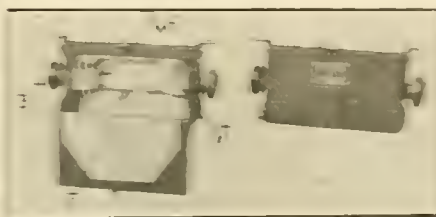

FIG. 2
A.—With this arrangement the trolley used in the trolley-box can be of much lower capacity than that of the current taken by the locomotive, the current drawn through one trolley-box when that particular set of trolleys has the only set of trolleys on the third rail. For instance, assume that the maximum current taken by the locomotive is 1,000 amperes. Under the condition of one set of trolleys only touching the third rail, the capacity of the trolley would have to be of excess of 1,000 amperes and of sufficient capacity to handle the current for the period of time which the locomotive might require to start up a heavy train and until the second set of trolleys on the same side comes in contact with the third rail. By connecting in the trolley-boxes on the opposite side of the locomotive from the set of trolleys in contact with the rail, the current drawn by the locomotive is divided among the trolley-boxes and so that half of these have a parallel handling the current, then 500 amperes would be the amount going through each trolley and therefore a trolley set of 500 amperes capacity could be used instead of one or two 1,000 amperes. When both sets of trolleys are in the third rail, in case of the night setting condition of 500 amperes capacity, 1,000 amperes would have to be taken by the locomotive before the trolleys would draw and the protection afforded by the trolley-boxes is not drawn materially due to the capacity of the trolleys. No larger trolley than is necessary should be used, so that in case of trouble the trolleys will draw immediately, thus removing current from the locomotive and preventing excess damage. Fig. 2 shows an arrangement of this kind. The four sets of third rail sides are shown as No. 1, No. 2, No. 3 and No. 4, these being located at the ends of the locomotive. The trolley-boxes are shown as A, B, C, D, E, F, G, H, I, J, K, L, M, N, O, P, Q, R, S, T, U, V, W, X, Y, Z, and are connected up with the third rail sides and with each other as shown by the cable connections in the diagram. With this arrangement the current taken by the locomotive through the trolley-boxes passes through four trolley-boxes, namely A, B, C, D, and E, regardless of whether one set or third rail sides or more are in contact with the third rail. Referring to the figure, assume that only the No. 1 set of third rail sides is in contact with the third rail. The flow of the electric current through the cable, etc., is then as follows: Current passes up through the cable in the main, not going through the trolley-box, along the cable
A.—Referring to Fig. 2, the trolley-box is shown with the front open and shows the method used in clamping the trolley trolley into position. The trolley-box when correct, draw in the wedge-shaped blocks W, and the jaws J, thereby clamping the trolley trolley J tightly. The leads carrying the current enter the jaws J at the back of the trolley-box.